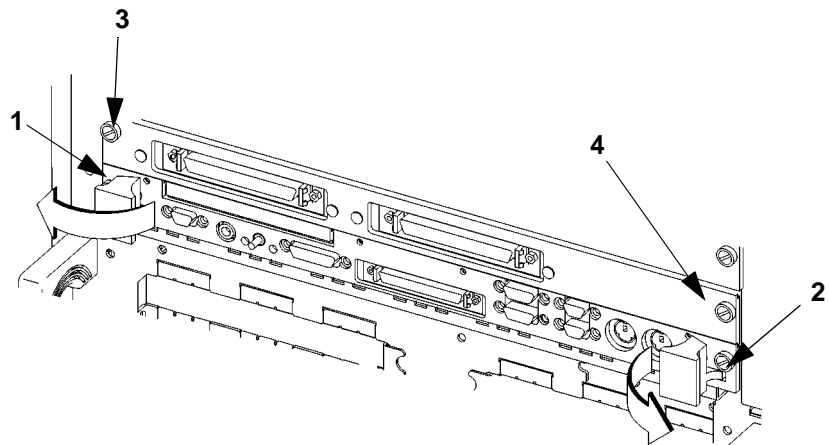

Figure 3-3 **Board Computer Captive Screws**
- 1 Loosen the captive screws at each end of the board computer that hold the computer in the VME card cage (in Figure 3-3, the screws are labeled 1 and 2 for a single-slot board computer, or 1 through 4 for a dual-slot board computer).